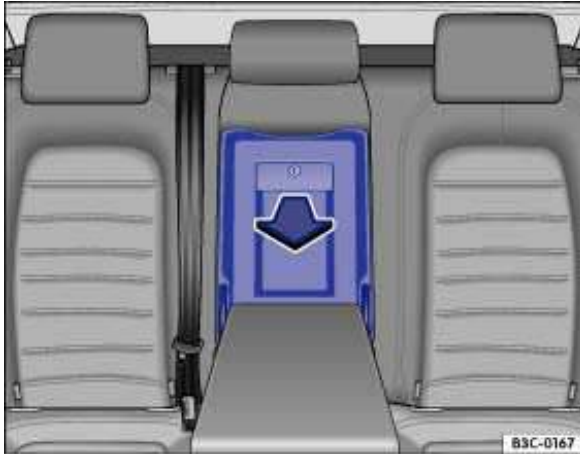

Fig. 89 In the rear seat backrest: Opening the luggage compartment pass-through.
- Pull the release lever ⇒ fig. 89 and fold the pass-through cover all the way forward.